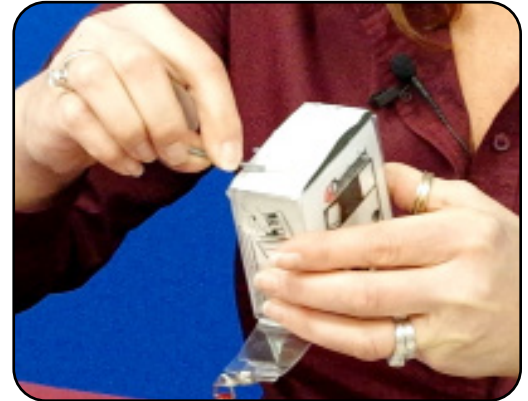

Figure 4
- Lightly moisten the fiber optic swab (2.5mm/38542F or 1.25mm/38040) by spotting a small amount (about 1") of Electro-Wash PX or Electro-Wash MX pen onto the QbE. Hold the swab, 1 side down to the wetted area and hold for a count of 1-2-3-4-5. (**Figure 4**)